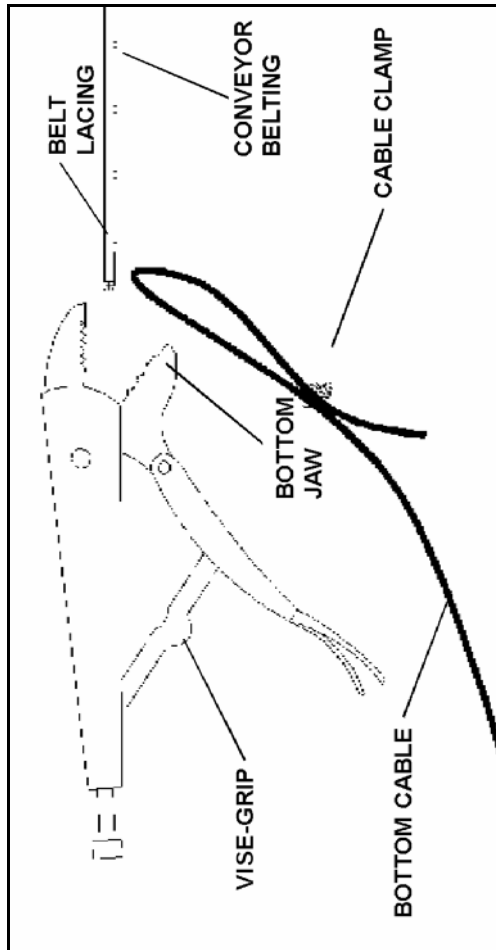

Figure 3.3
6. Attach the cable to the conveyor belting as seen in Figure 3.3. Make a loop in the cable and secure it with a cable clamp. Place bottom jaw of vise-grip through loop in cable, and clamp vise-grip tightly to conveyor belting.